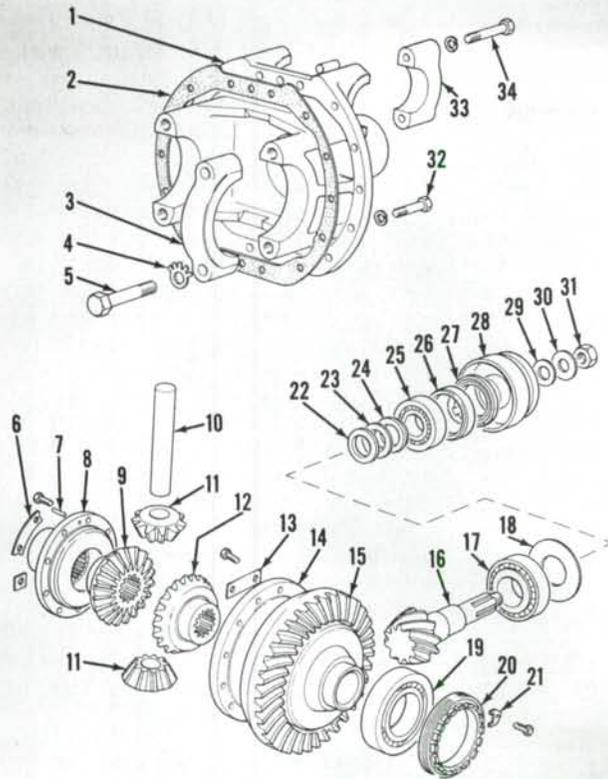
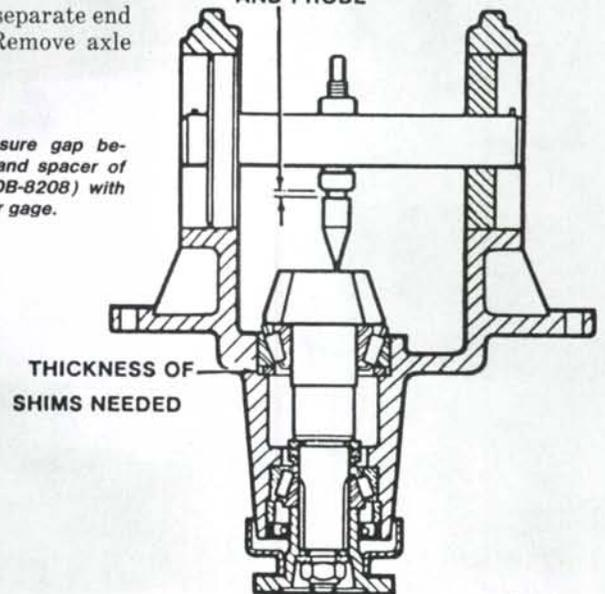

Fig. 11—Exploded view of David Brown differential assembly showing component parts and their relative positions.
Fig. 13—Measure gap between probe and spacer of special tool (DB-8208) with a feeler gage.
Remove pinion shaft locknut (31—Fig. 11), then drive pinion shaft through flange (28) and carrier (1). Front spacer (22), shims (23) and rear spacer (24) should remain on pinion shaft as it is removed. Remove remaining bearing cups and shims from carrier (1) as necessary. Inspect bearings and spacers on pinion shaft and renew as necessary.
Assemble pinion shaft in carrier minus shims (18—Fig. 11), oil seal (27), spacer (26), sealing washer (29), front spacer (22), shims (23) or rear spacer (24). Install flange (28), retaining washer (30), and locknut (31) on pinion shaft (16) and tighten locknut until all end play of pinion shaft is just removed, then tighten locknut just a small amount more to slightly preload bearings. Install special tool in carrier bearing bores as shown in Fig. 12. Install shaft (CAS-1236-6), probe and spacer (CAS-1609) and locknut (CAS-1234-4) of special tool so probe point lightly contacts face of pinion shaft gear. Tighten locknut to lock probe in this position. Using a feeler gage, measure and record amount of gap between spacer and probe. See Fig. 13.
Fig. 12—To set pinion shaft protrusion, install special tool set (DB-8208) in carrier housing as shown. Refer to Fig. 13 and to text to determine thickness of shims required to correctly set shaft protrusion.
Noting that special tool has a built in dimension of 0.030 inch (0.76 mm), substitute actual gap measurement and shaft correction number for figures shown in the following example to determine thickness of shims (18—Fig. 11) needed to correctly set pinion shaft protrusion.
Reassemble pin shaft with spacers (22 and 24—Fig. 11) using 1.27 mm (0.050 inch) thick shims (23), but without spacer (26), oil seal (27) and sealing washer (29). Install flange (28), washer (30) and nut (31) on pinion shaft and tighten nut to 190 N·m (140 ft.-lbs.) torque. Turn shaft in both directions to seat bearings, then mount a dial indicator on carrier so probe contacts end of pinion gear as shown in Fig. 14 and measure shaft end play. Remove pinion shaft and reduce thickness of shims (23—Fig. 11) an amount equal to measured end play. This procedure will provide zero end play and zero preload. However, a tolerance of plus or minus 0.05 mm (0.002 inch) is acceptable.